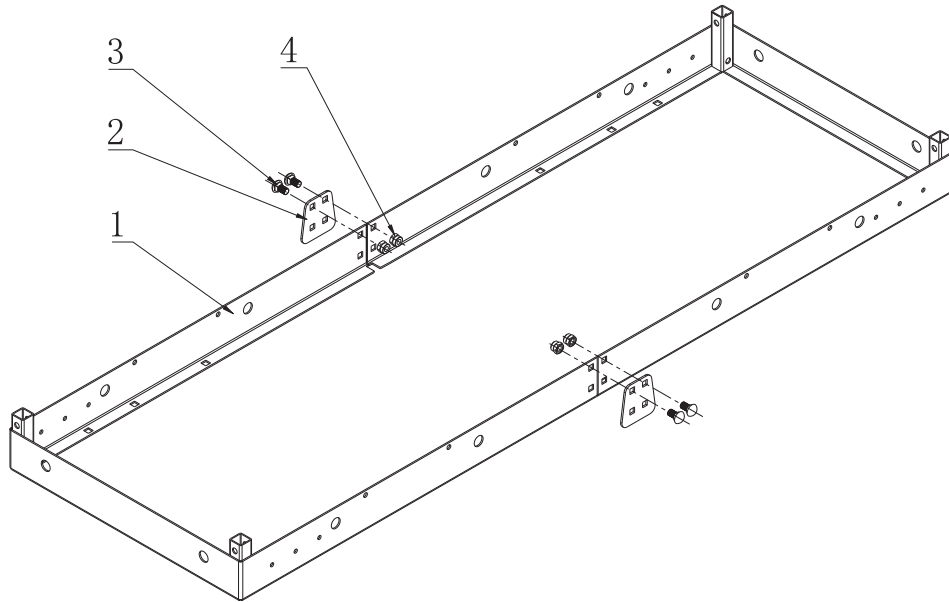

FIG. 1
STEP 1 Connect the two supporting frames (1) using the connecting piece (2); line up the corresponding square holes; use 2 of the M10*20 carriage bolts (3) and install in top 2 holes only; Secure with 2 of the M10 locknuts (4). Continue the same configuration for the other side. Do not tighten completely. Details shown in Fig 1.